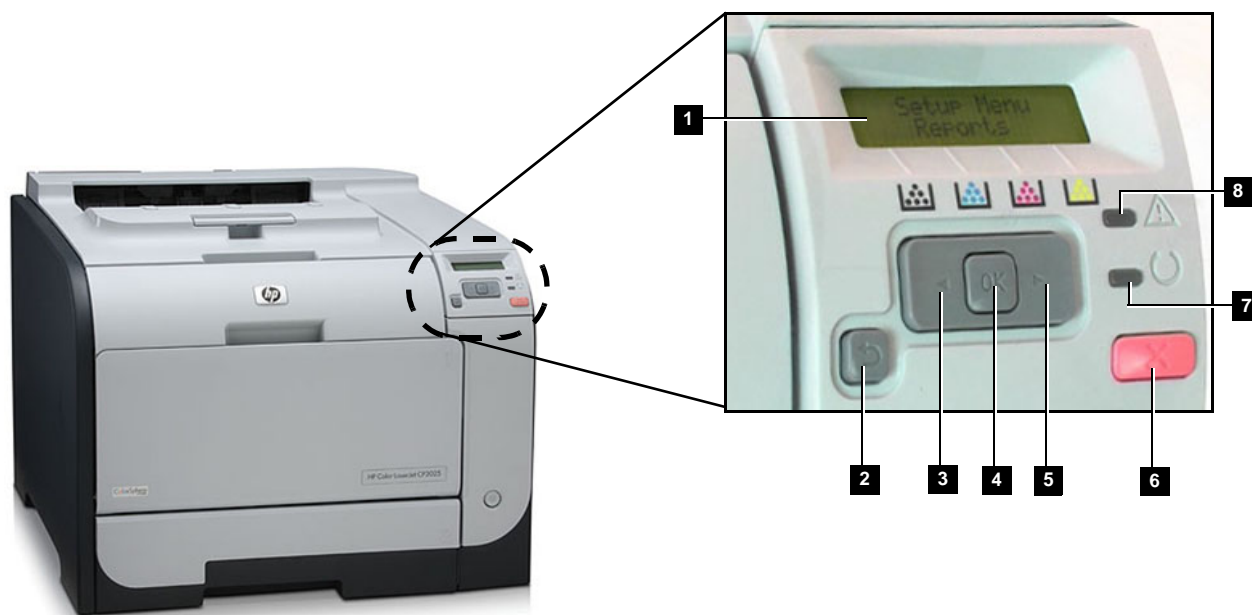

Figure 3-29 Printer Control Panel
The settings for the HP Laserjet M451 Color printer are controlled via the printer's control panel located as shown in Figure 3-29.
Table 3-19 Printer Control Panel - Legend to Figure 3-29
- 1.) On the printer's control panel, press **OK** (button 4) in Figure 3-29.